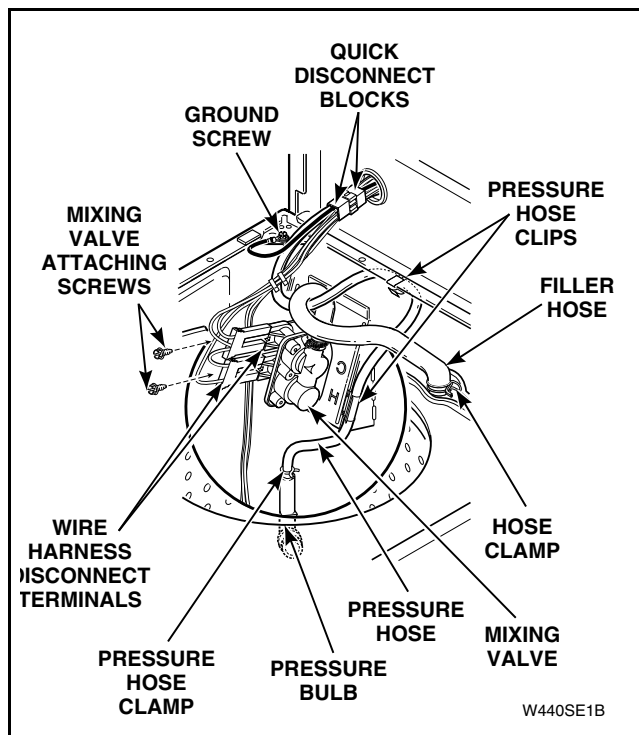

Figure 44
- Remove screw(s) holding mixing valve to mounting bracket at rear of washer cabinet. Refer to *Figure 44*.
- Pull mixing valve out toward front of washer far enough to permit disconnecting water inlet and fill hoses from mixing valve. Refer to *Figure 44*.
- Remove wires and quick disconnect blocks from mixing valve solenoid terminals. Refer to *Figure 44*.